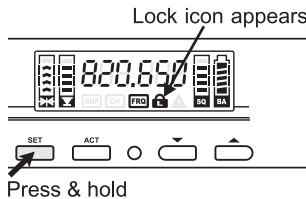

Fig. 16
- (1) Press the 'SET' button until the SQ cursor starts blinking to denote it is ready to accept parameter change.
- (2) During blinking, press ▼ or ▲ button to increase or decrease one squelch level.
- (3) Decreased SQ level setting has higher sensitivity level resulting in a longer reception range.
(F)  Lock & Unlock Receiver Panel. Fig. 16: